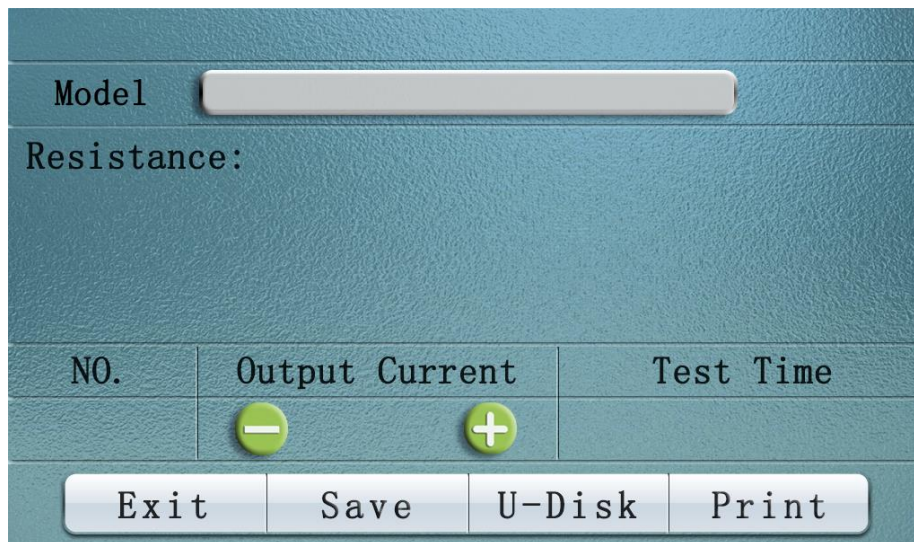

Figure 3
3. After the current is selected, click "**Start test**", which shows that "please wait while charging" enters the test state. After a few seconds, the test result will be displayed, as shown in figure 3